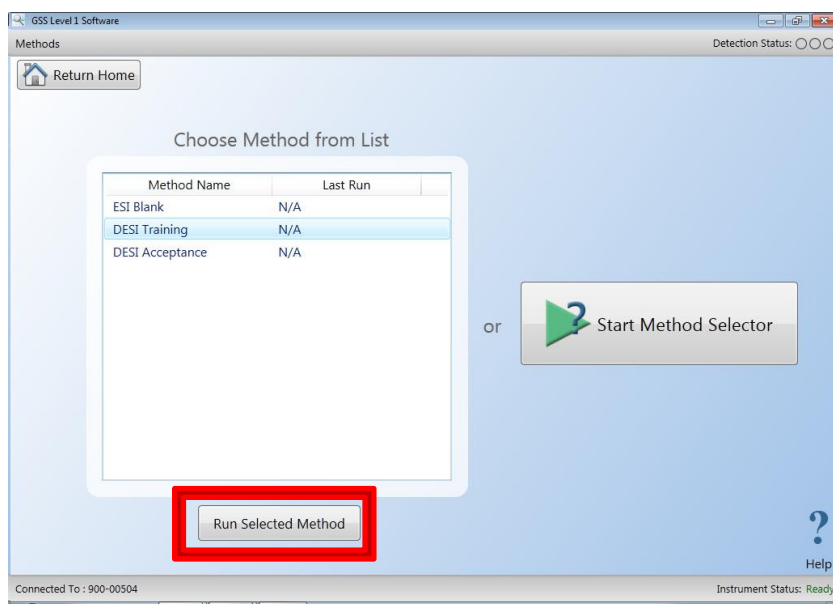

Figure 3.12 – Selecting a method
3. Choose the desired method from the list and select the “run selected method” button (Figure 3.12). Refer to Section 3.2 for pre-loaded method explanations.